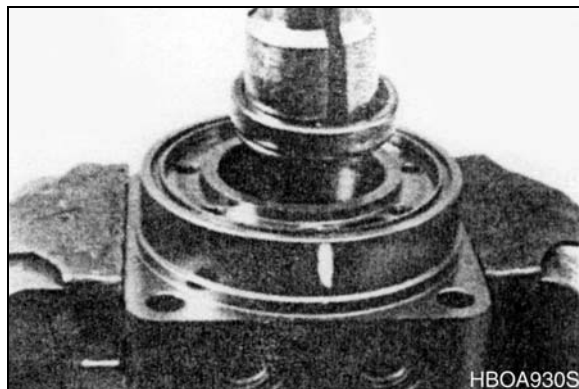
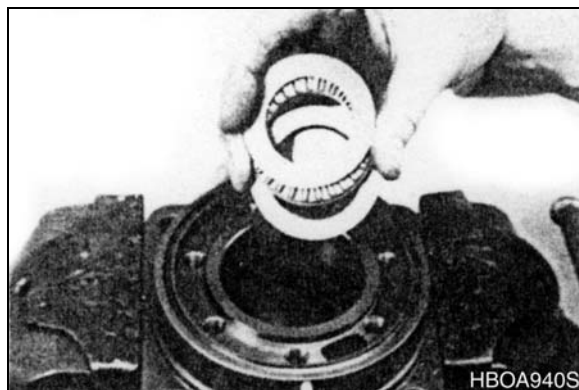

Figure 32
Figure 33
22. If the bearings, bushing or thrust washers must be replaced use a suitable size bearing puller to remove bearing/bushings (19) and (13) from housing (18) without damaging the housing. Remove thrust washers (14) and thrust bearing (15) if they were previously retained in the housing by bearing (13). See Figure 32 and Figure 33.
NOTE: Individual seals and seal rings and a complete seal kit are available. SEE FIGURE 32. The parts should be available through most OEM parts distributors or Ross approved Torqmotor™ distributors. (Contact your local dealer for availability).